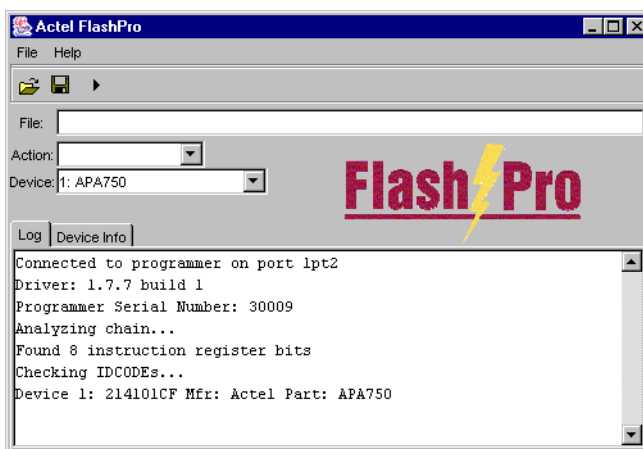

Figure 2-4. FlashPro: Analyzing Chain
1. From the **File** menu, click **Analyze Chain**. Chain details appear in the Log window, as shown in Figure 2-4. The software should detect a minimum of eight instruction bits (the IR length of a ProASIC or ProASICPLUS device). If you encounter any failures, please refer to “Error Messages & Troubleshooting Tips” on page 89 for more information.